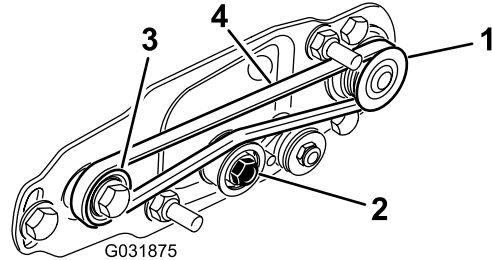

Figure 26
- A. Loop the belt around the drive pulley and then over the top of the idler pulley (Figure 26).
- B. Start the belt on the driven pulley (Figure 26).